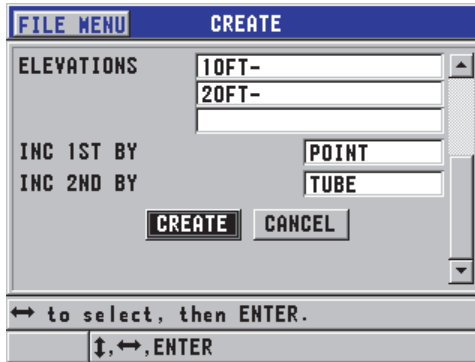

Figure 6-25 Configuring the ID range for a boiler data file type
3. In the second page of the **CREATE** screen (see Figure 6-25 on page 104):